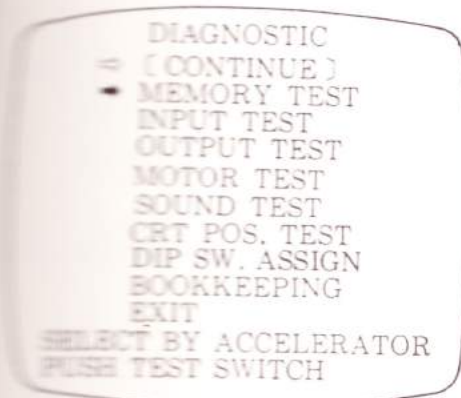

FIG. 1
- (1) Push the test switch and Fig. 1 will be shown on the screen.
- (2) Select CONTINUE or INDIVIDUAL by using the START button.
- (4) When each test is finished in the case of CONTINUE, push the TEST button, and it will automatically go into the following test. If the TEST button is pushed in the case of INDIVIDUAL, FIG. 1 is shown. If you want to end the test mode at this time, bring the arrow to EXIT and push the TEST button, and it will return to the ADVERTISEMENT mode.
Every time the TEST button is pressed, the bookkeeping test display is repeated. When the test is finished, push the TEST button to end the test (in the case of "INDIVIDUAL", however, the test mode returns to Fig. 1 first).
In the state as shown in Fig. 1, operate the handle to bring the arrow to EXIT and push the TEST button. The self-testing will then end and return to the ADVERTISING mode.